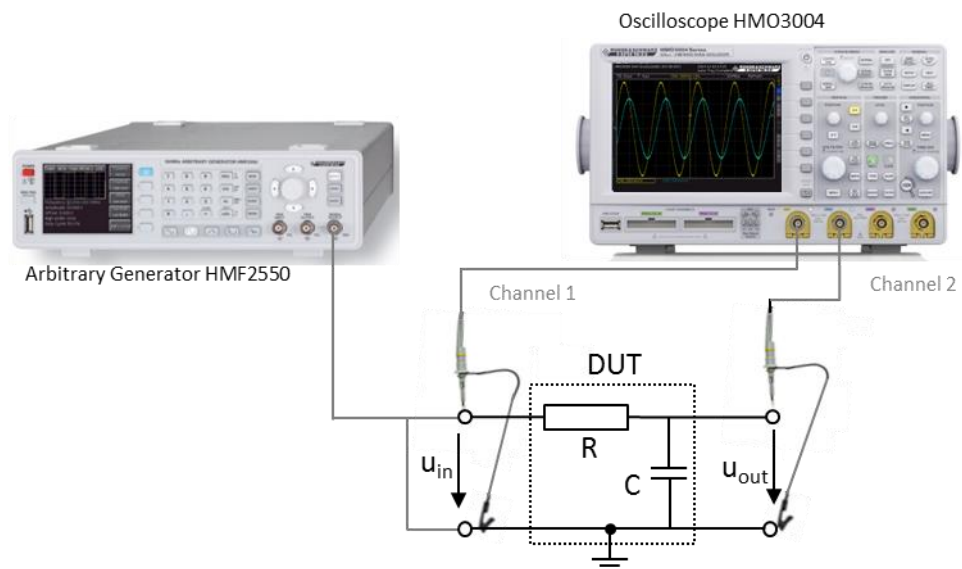

Fig. 2-36: Measuring the filter characteristics using the HMO3004 oscilloscope.
- Connect the signal generator output to the filter input as shown in Fig. 2-36.
- Connect a probe and a ground cable to the filter input as shown in Fig. 2-36. Connect the second probe and ground cable to the output.  $u_{in}$  is measured with CH1 and  $u_{out}$  with CH2.